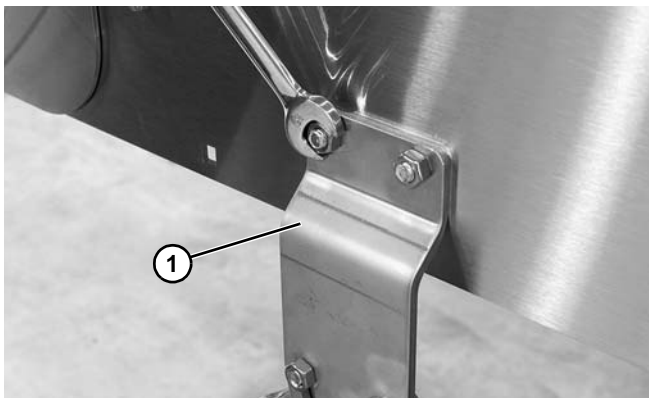

Figure 8
2. Attach the stands (**Figure 8, item 1**) to the frame. Tighten carriage bolt nuts to 14-16 ft-lbs (19-22 Nm).